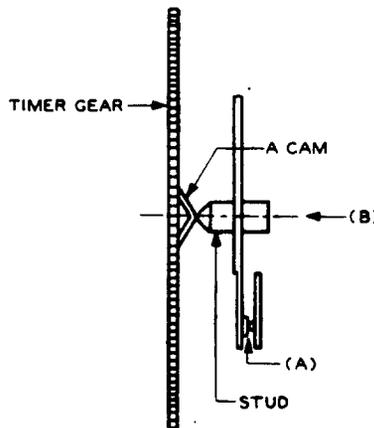
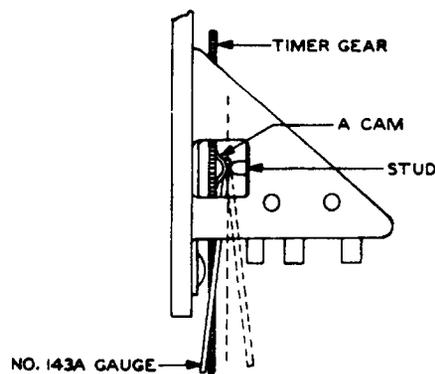

Fig. 15 - "A" Cam Position
Fig. 16 - Checking "A" Cam Position
(a) "A" Cam Contacts: Fig. 15(A) - With the timer gear rotated so that the "A" cam does not touch the stud, the contact separation shall be
2.23 "A" Cam Position: Fig. 15(B) - With the timer gear in its normal position, the center line of the "A" cam shall be centrally located with respect to the center line of the stud on the A contact spring assembly. This requirement is met, if with one end of the gauge applied as shown in Fig. 16, the near end of the gauge takes a position to either side of a line passing through the end of the stud and parallel to the timer gear and with the gauge reversed, the near end of the gauge takes a position with respect to the line opposite to that taken before the gauge was reversed.